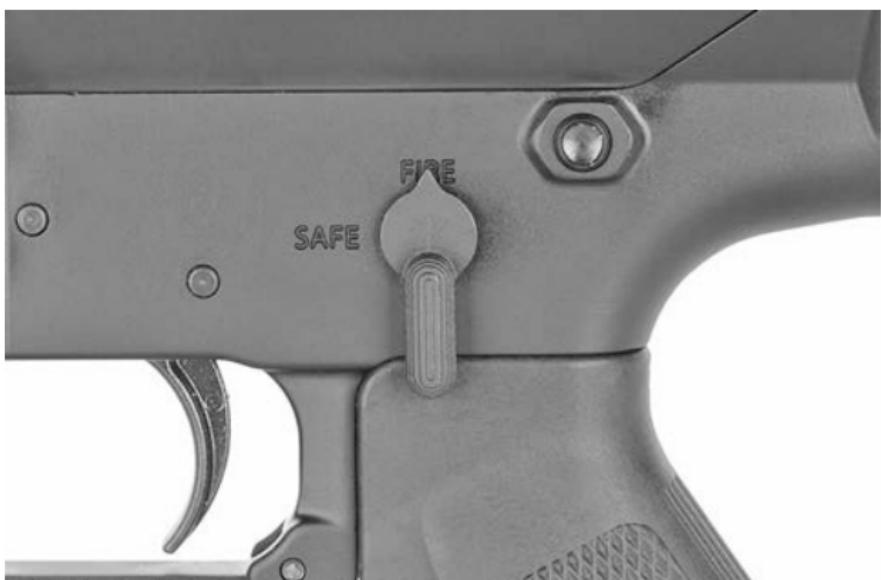

Figure 12
3. Move the safety lever to FIRE. See figure 12.